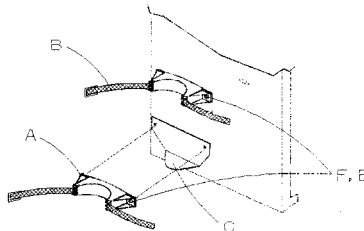

figure 2. Full Access Cart
For Full Access Cart: Attach Brackets (A & C) to Full Access Cart, using 1/4-20 X 1/2" screw (F) and washer (E) tighten with a 3/8" wrench. See figure 2.